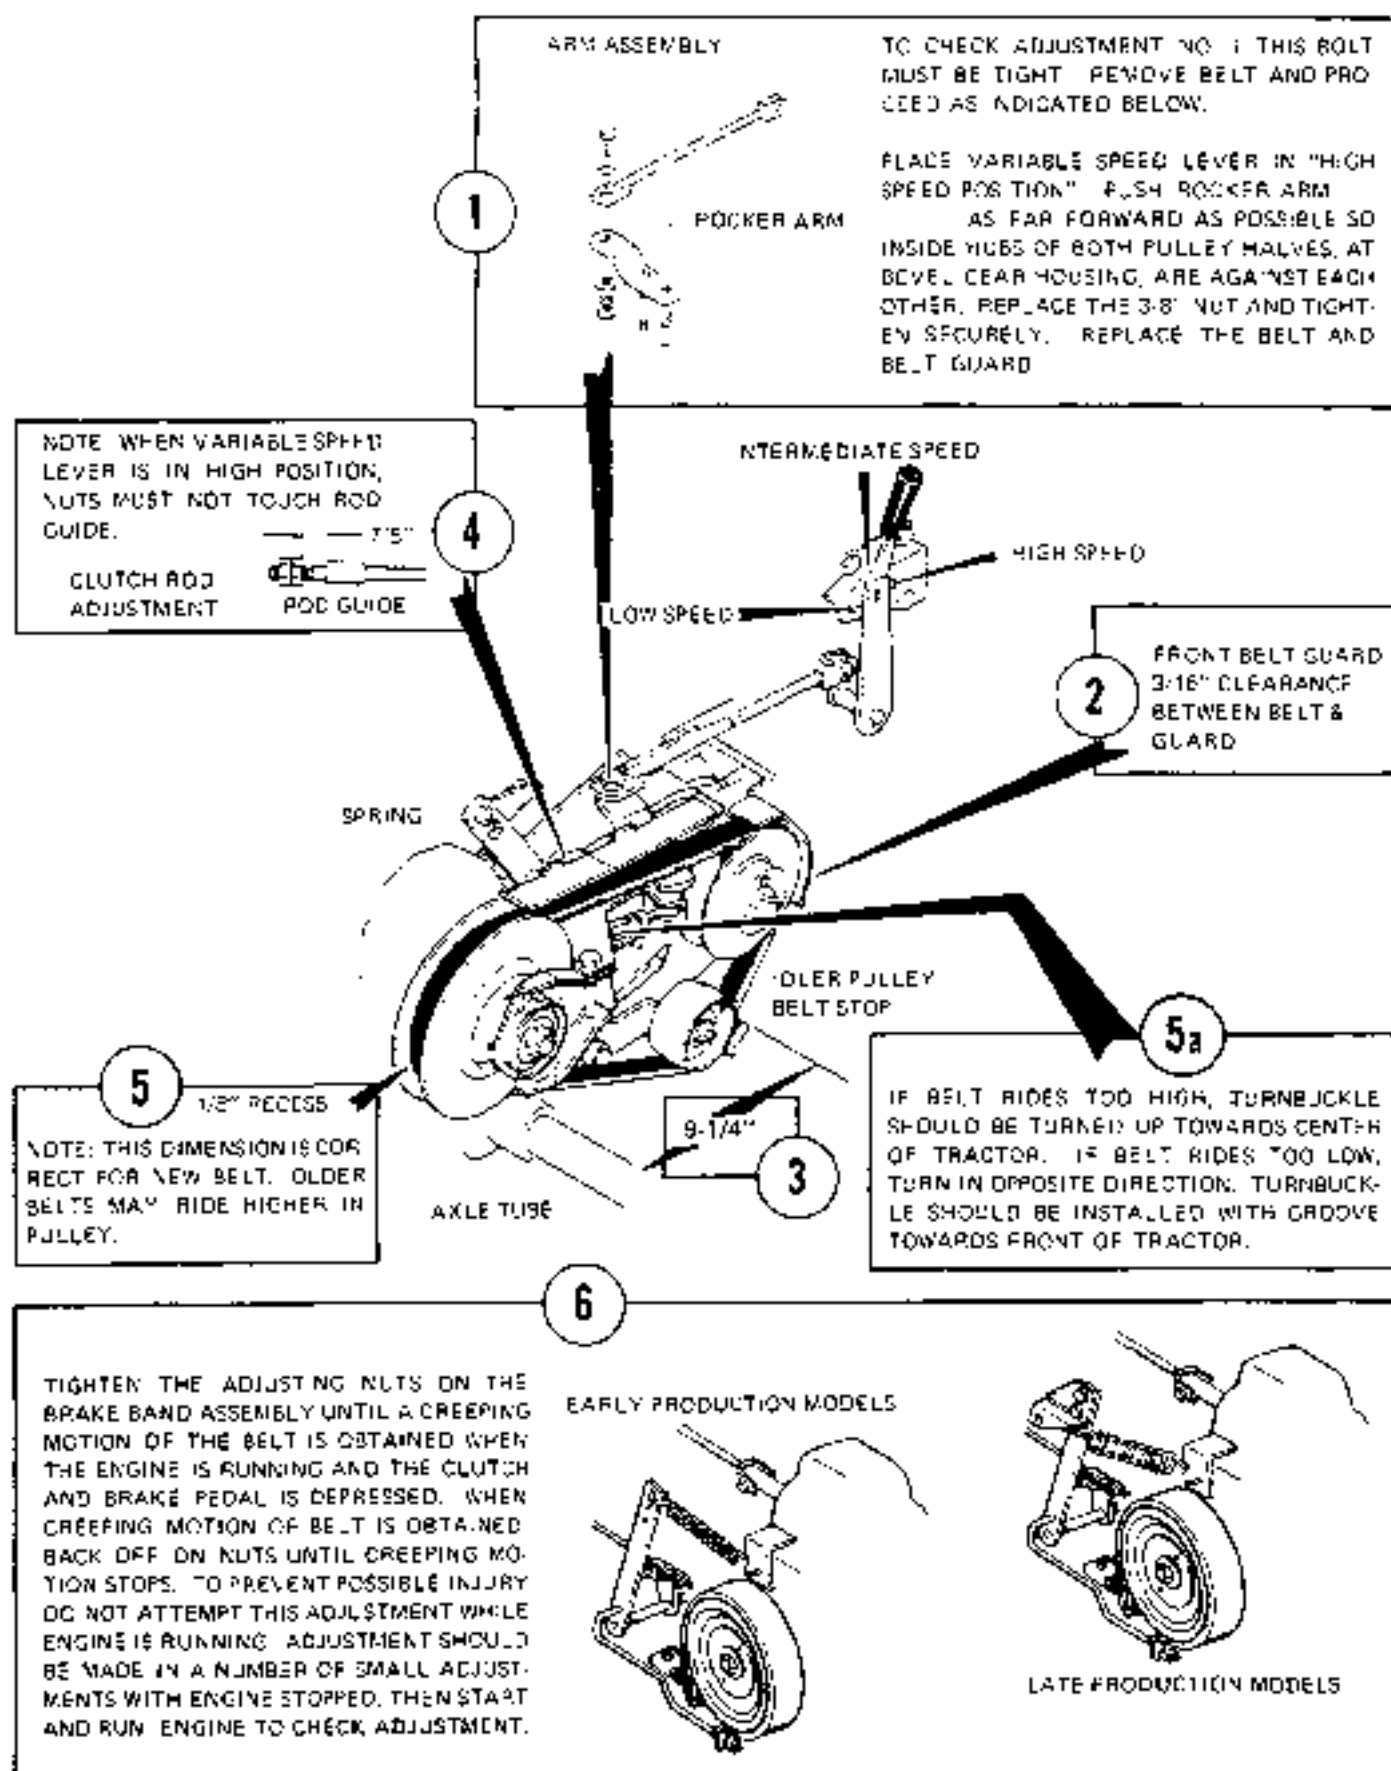

FIGURE 3
4. On early production models the spring is normally in the top hole. If less spring tension is desired, move spring to next lowest hole or pivot lever assembly. Less tension can be used when mowing on level terrain and if clutch pedal is found to be uncomfortably hard for the operator to depress. (See Fig. 3.) Greater belt tension is necessary to prevent variable speed belt from slipping when tractor and attachment are under heavy load. A slight chattering of the variable speed belt on the pulleys will be noticeable until the belt loses its stickiness and becomes smooth.